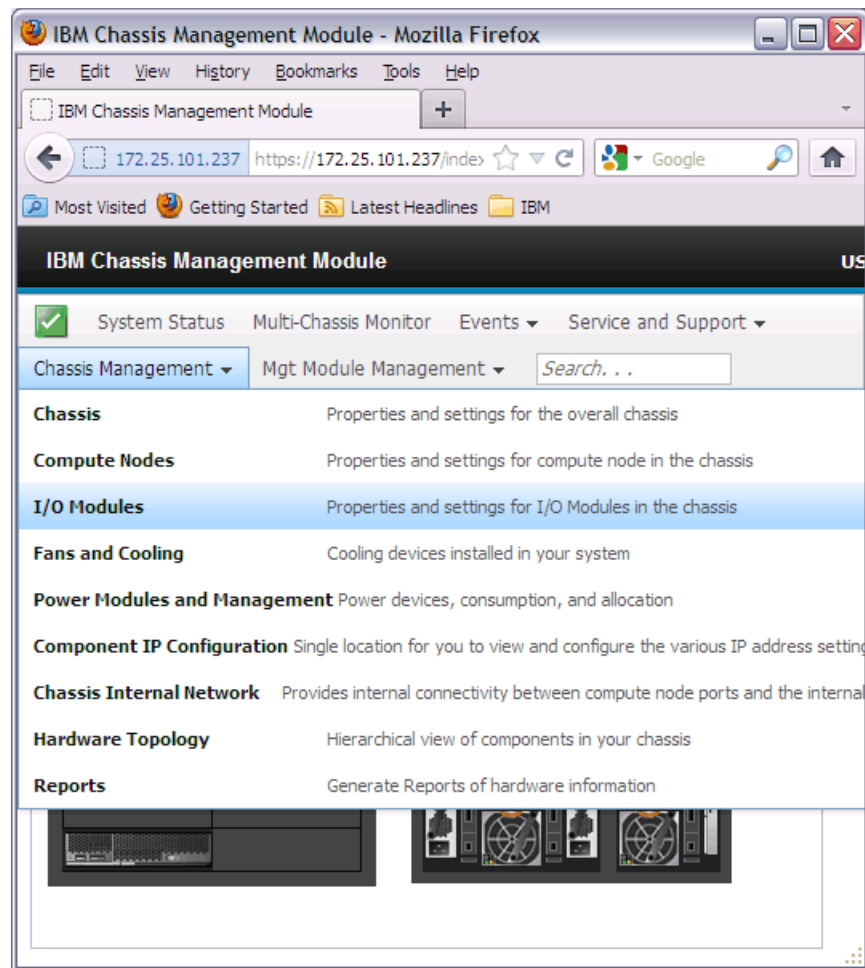

Figure 8-10 Select I/O modules management
3. Select **Chassis Management** → **I/O Modules** (as shown in Figure 8-10).